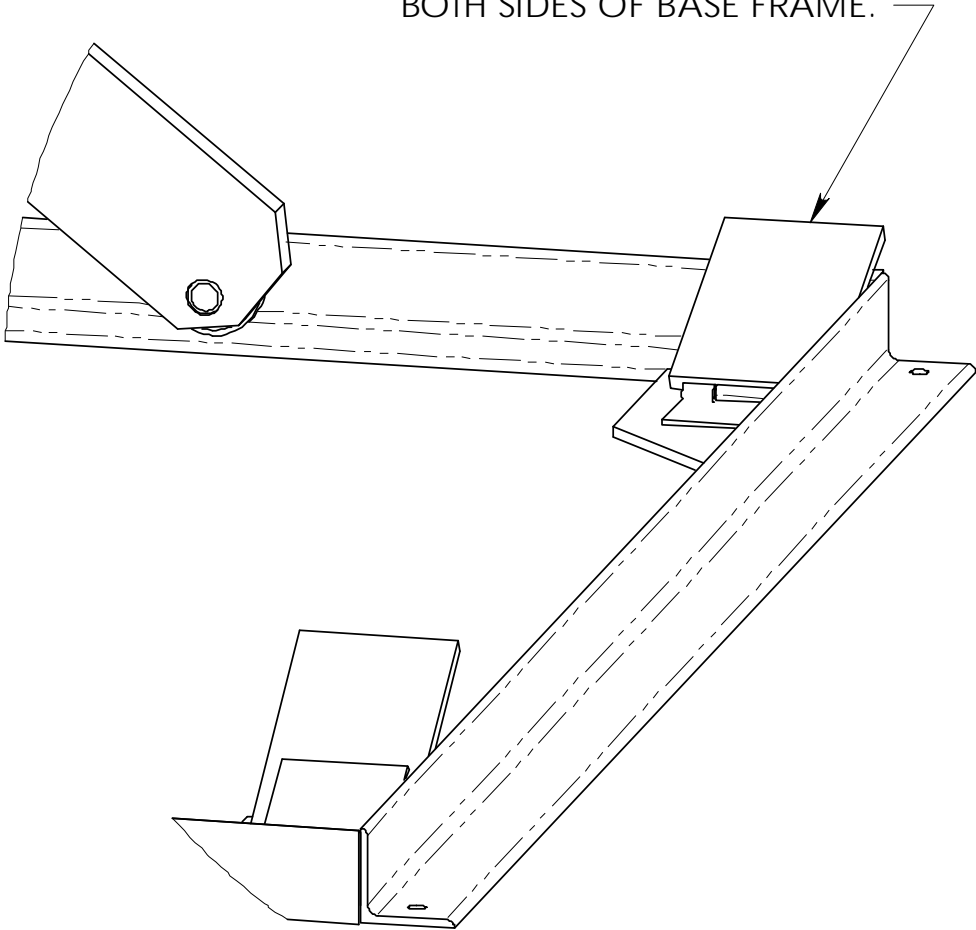

Figure 7 Maintenance Locks
3. Engage both maintenance locks by flipping them into the base frame (see Figure 7).